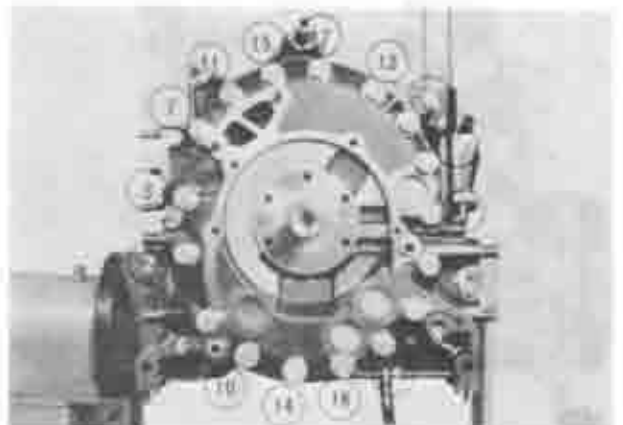

Fig. 1-102 Tightening order
2. Tighten the bolts gradually in the order shown in Fig. 1-102. The specified tightening torque is 2.5 m·kg (18 ft·lb).